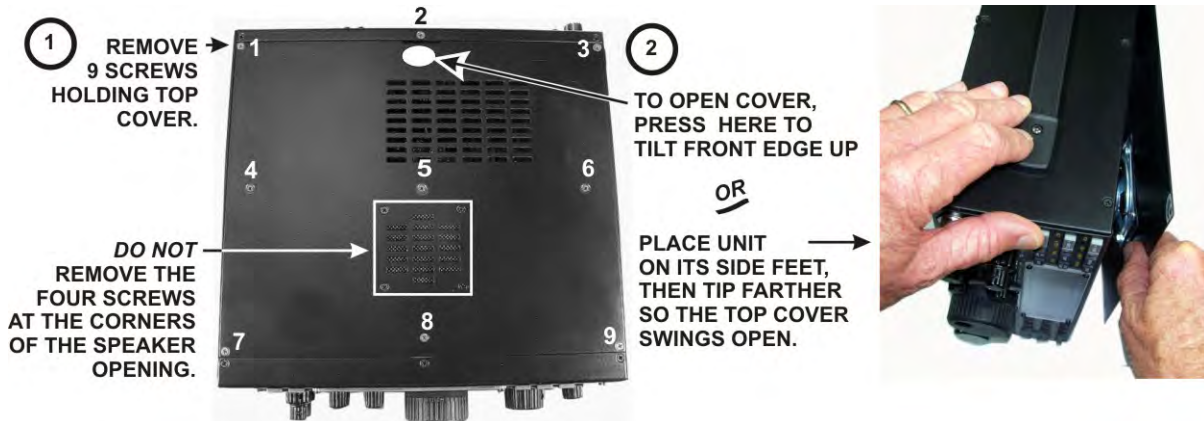

Figure 2. Removing K3 Top Cover.
- Remove the nine screws to free the top cover as shown in Figure 2. After the cover is open, lift it gently to reach the speaker wire connector. Unplug the speaker then set the top cover aside in a safe place. If you have the K144XV 2-meter option installed, slip the speaker wire under the chassis stiffener bar that runs across the top of the K3 along the depression in the top of the K144XV module.